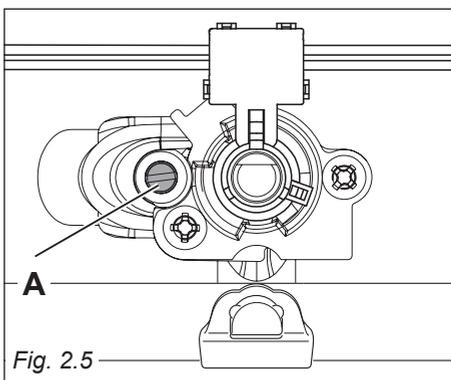

Fig. 2.5
- Using a screwdriver turn the screw "A" until adjustment is correct (fig. 2.5).